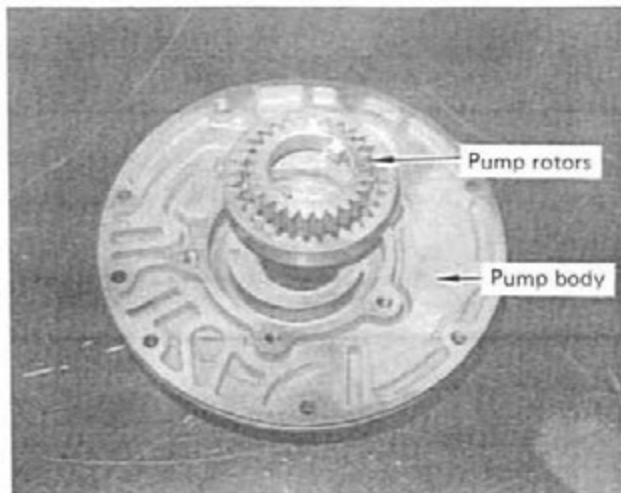

FIGURE 17
STEP 3. Remove rotors (gears) from the body. (See Fig. 17) Remove the front seal being careful not to damage the bushing. Use a screwdriver or chisel to knock the seal out from the inside.